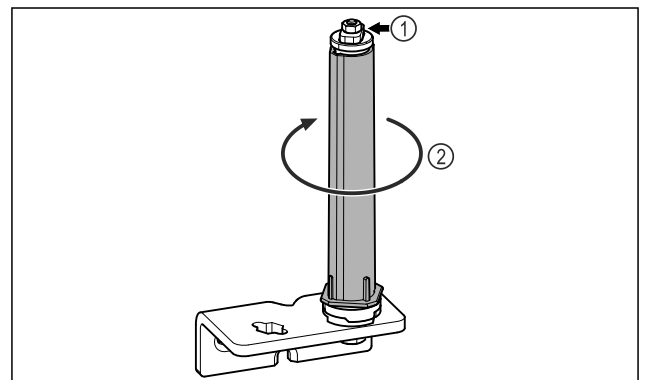

Fig. 28
- ▶ Do not disassemble the door locking system Fig. 28 (1).
- ▶ Turn the locking system *Fig. 28 (2)* until it clicks.